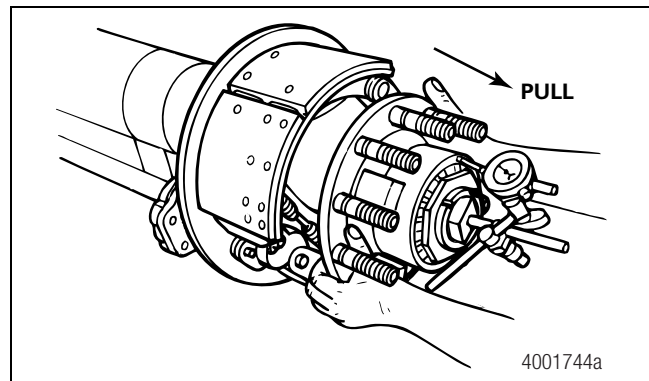

Figure 2.13
4. Pull the hub OUTWARD until the dial indicator does not change. Do not rotate the wheel end. Figure 2.13. The difference in readings between pushing INWARD and pulling OUTWARD is the end play.